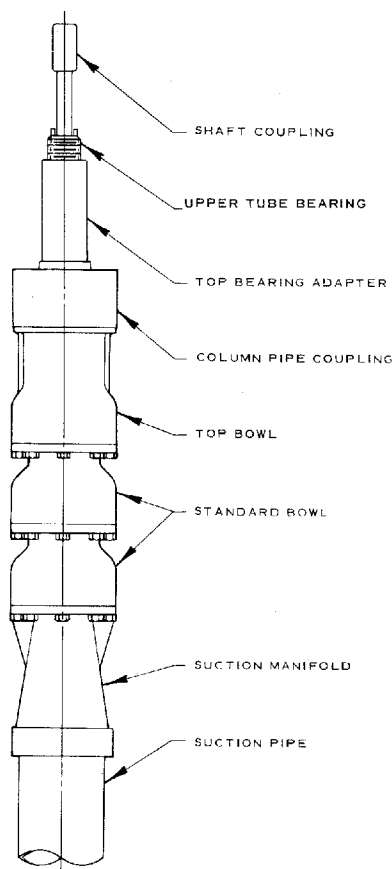

Fig. 6-2. Enclosed Lineshaft Bowl Unit.
G. Remove the shaft coupling and upper tube bearing from the pump bowl unit. (See Fig. 6-2.) Plug the oil groove in the lower tube bearing with a medium-weight waterproof grease. A list of recommended greases is given in Table 14-1. If the bearing has a longitudinal hole parallel to the bore, plug that with grease also. Pack the top bearing adapter tube approximately half-full with the same grease. This will prevent loss of lubricating oil into the well and entry of well water into the enclosing tube. Replace the bearing and the coupling.
4. Fasten a second elevator clamp to the upper end of the bowl unit, just below the column pipe coupling. (See Fig. 6-2.) Attach the sling to the eleva-